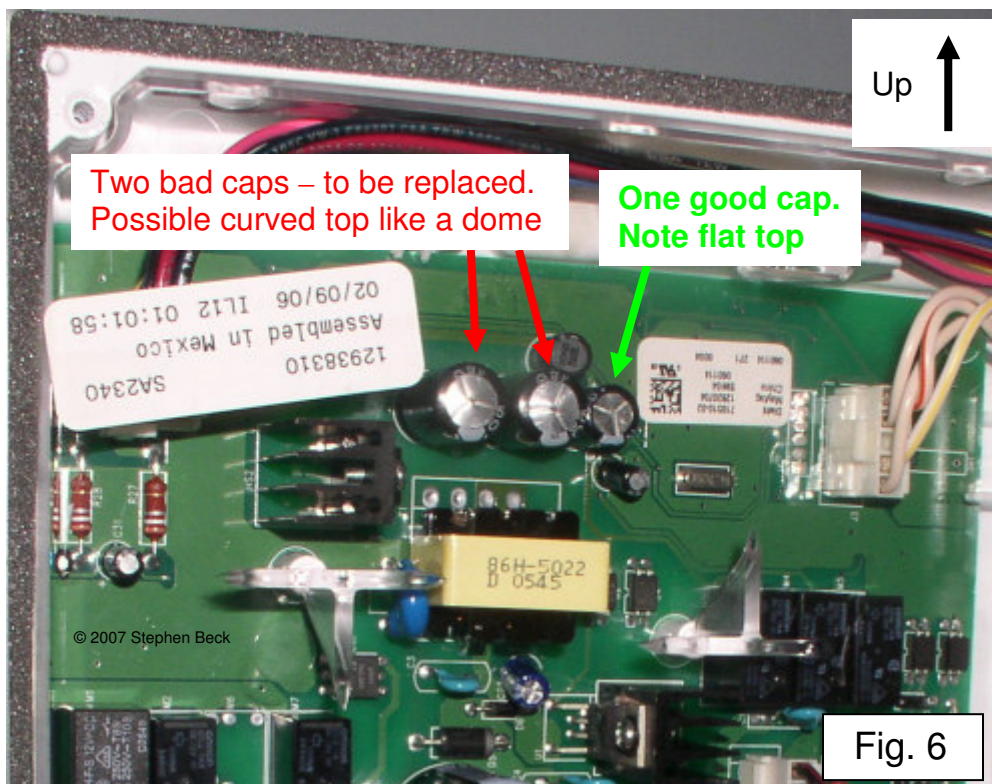

Fig. 4
5. You should now be looking at the HV Control Board behind a hard clear plastic cover (Fig 4.):